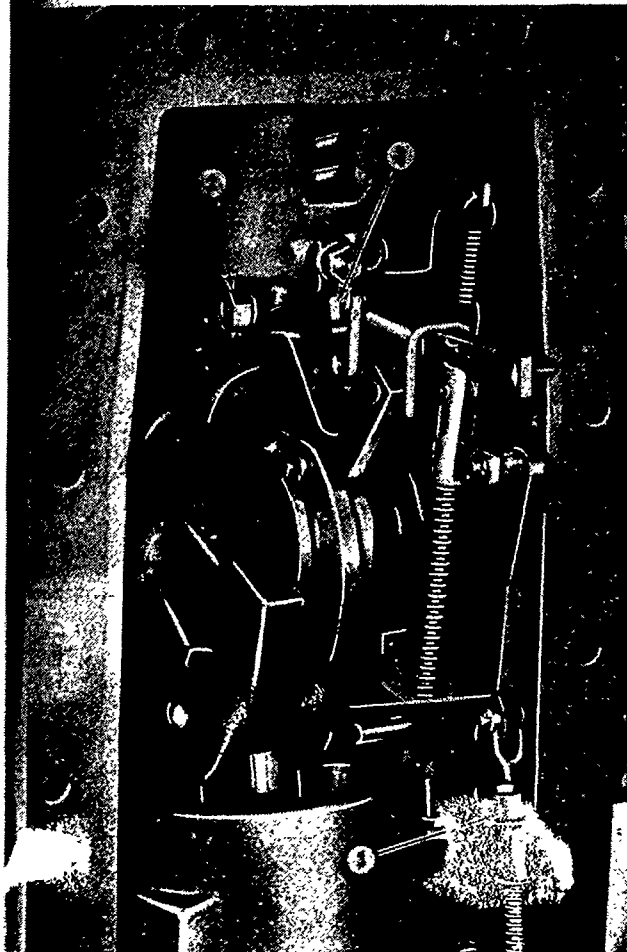

Figure 11
2. Loosen the draft control adjustment screw retaining nut (1), Figure 11, and position the offset of the screw in its highest position (with respect to normal operating position of the lift cover), then tighten the nut.
3. Adjust the control valve spool turnbuckle, Figure 11, until the control valve spool is recessed inside the control valve bushing 0.030 ± 0.005 inch (.762 $\pm$.127 mm). Use the hydraulic lift control valve setting gauge, SW 508A or SW 3B, to check this dimension.
3. Adjust the position of the draft control adjustment screw, Figure 11, until the control valve spool is recessed inside the control valve bushing 0.030 ± 0.005 inch (.762 $\pm$.127 mm). Use the hydraulic lift control valve setting gauge, SW 508-A or SW 3B, to check this dimension.